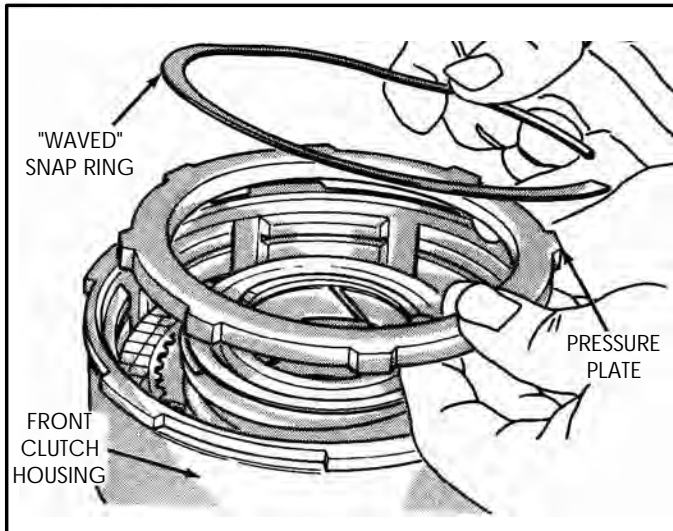

Figure 67
2. Remove the "Waved" snap ring and pressure plate, as shown in Figure 67.
22. Install the pressure plate on top of last friction plate, as shown in Figure 67.